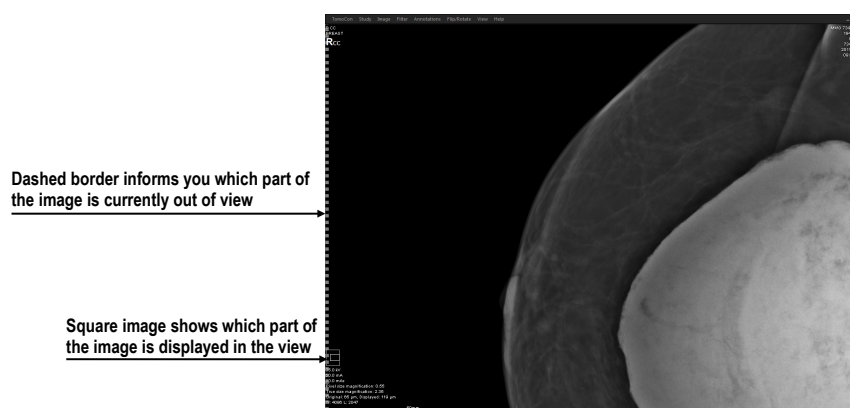

Figure 78 – Active checkered border
- The **Show checkered border when the entire image is not displayed** check box – if checked and the image in the mammography view is scaled in such a way that parts of the image is out of the view, the image is partially bordered with a dashed line to indicate which part of the image is displayed outside of the view (see Figure 78).